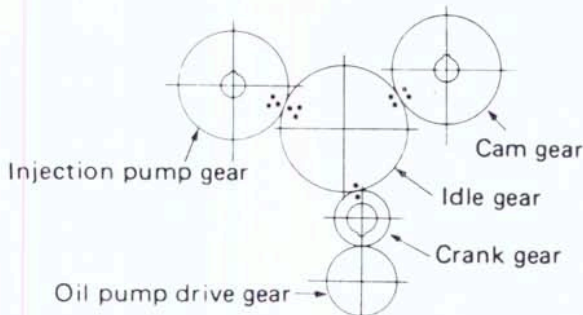

Fig. 49—View of timing gear marks correctly aligned for Models L185, L235, L245, L275, L295 and L305.
30. Valve timing is correct when timing marks on timing gear train are aligned as shown in Fig. 49 or 50. Timing gear cover must be removed to check timing marks. Refer to following paragraph.
When reassembling timing gears, align timing marks as shown in Fig. 49 or 50.
When reinstalling camshaft, thoroughly lubricate cams and bearing journals. Be sure to align timing marks as shown in Fig. 49 or 50.